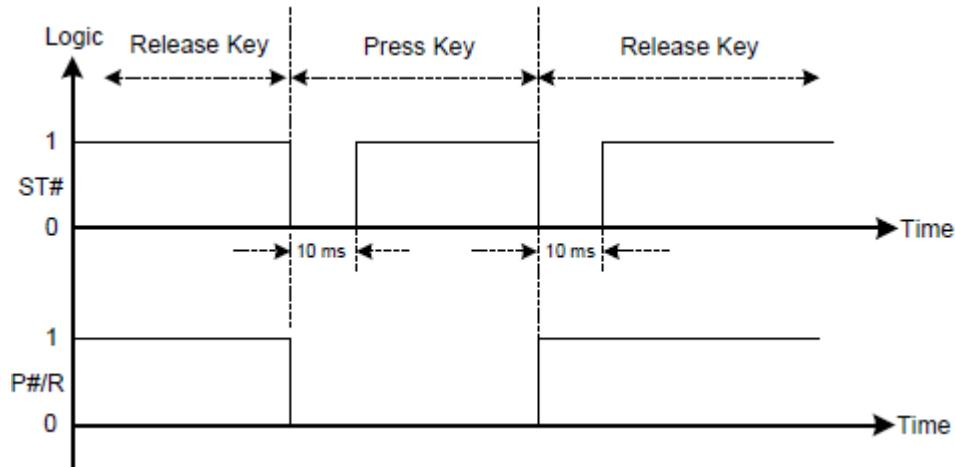

Fig. 3: P#/R and ST# timing diagram
ST# = Strobe pin, indicating the keypress status. It is normally logic HIGH. It sends out a 10mS pulse once the keypress is detected as show on the timing diagram figure 3.
8. **UART Header:** It is 4-PIN 0.1" male connector use for power and sends out keypress data in RS232-TTL (UART). The baud rate is fixed at 9600. TX and RX pins can be connecting directly to the MCU. **DO NOT attaches this module directly to a computer serial port. You will need a RS232 level shifter circuitry. Doing so may damage the module or the computer.** See figure 3 for the pin-out.
then go back to logic 1 (Figure 3)
- 2) $P\#/R$ change from logic 1 to 0 and stay at logic 0 (Figure 3)
- 2) *P#/R* change from logic 0 to 1 and stay at logic 1 (Figure 3)